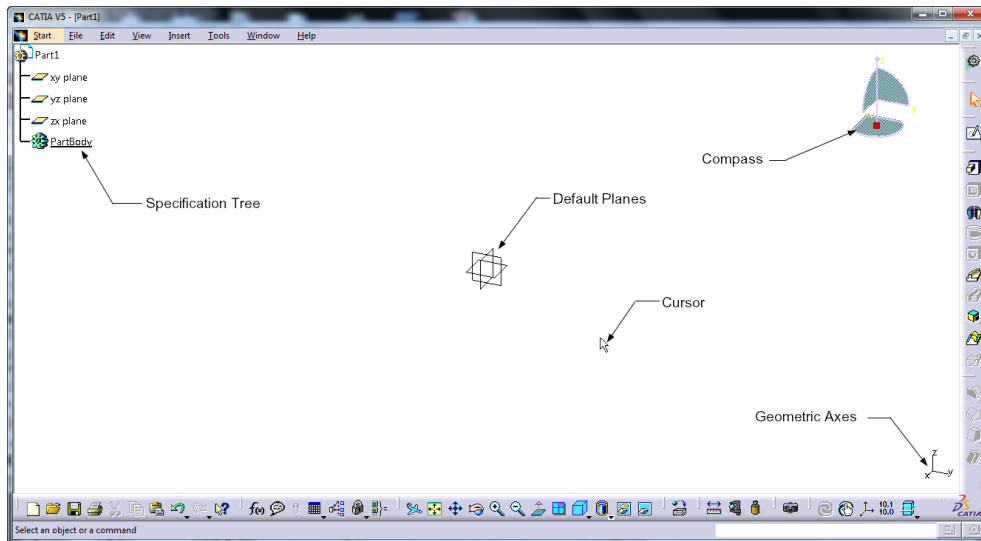

Figure 2-6 A new file opened in the **Part Design** workbench
**OK** button; the **New Part** dialog box will be displayed. Enter the file name in the **Enter part name** edit box and choose the **OK** button; a new file in the **Part Design** workbench will be displayed on the screen, as shown in Figure 2-6. The standard tools like the Specification tree, **Compass**, and Geometry Axes will help you complete the design. The Specification tree is displayed on the top left corner of the screen. The **Compass** is displayed on the top right corner while the Geometry Axes is displayed on the bottom right corner of the screen.